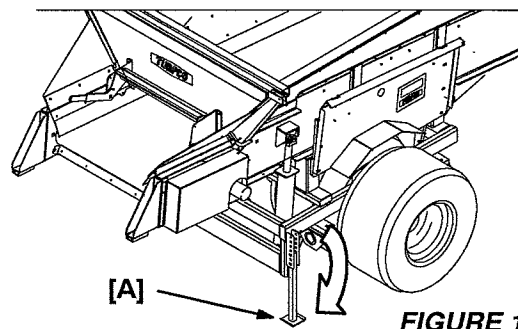

FIGURE 1
STEP 2. (See Figure 1) Check the position of the CR-10 rear stabilizer leg [A]. To avoid tipping of the CR-10 during hitching, the stabilizer leg should be in a lowered position. If the front of the CR-10 needs to be raise for proper hitching, ensure that the rear leg is remounted higher to allow for the front of the CR-10 Unit to be raised.